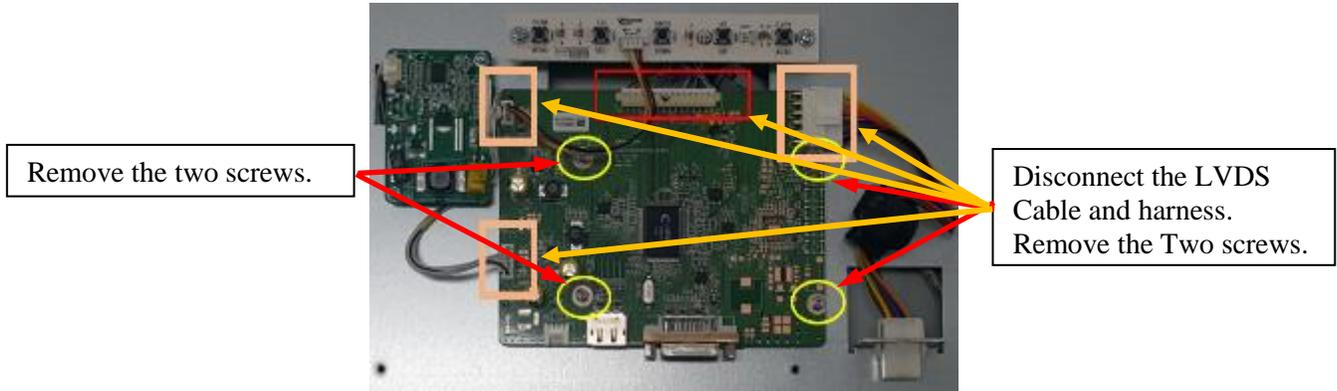

Figure 12 (69975405/KTS270DGI01)
- 2) Locate the A/D board as shown in Figure 12, 13